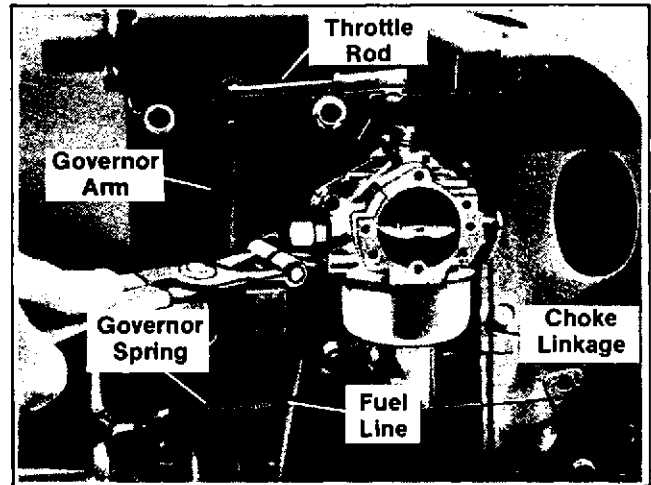

Figure 8-23. Connections to Carburetor (Throttle, Fuel and Governor)
3. Attach choke linkage between choke control lever and choke lever on carburetor. Snap throttle rod onto ball that is connected to carburetor throttle lever. Attach governor spring between throttle control lever and governor arm. Connect the fuel line from the fuel pump outlet side to the carburetor using a spring clamp. (See Figure 8-23 for connections.)